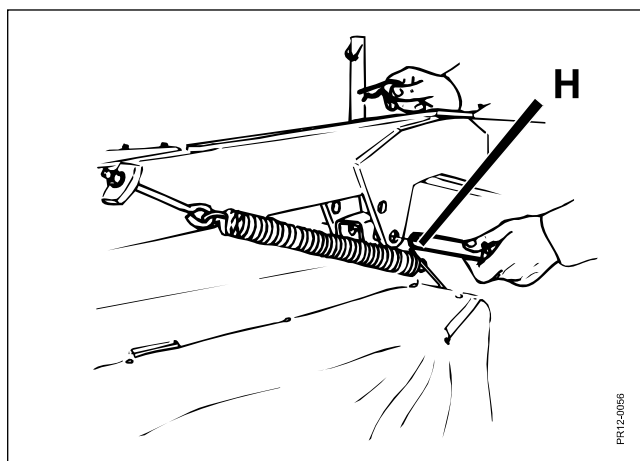

Fig. 3-3
- Fig. 3-3 The pendulum suspension must be locked at the pin **H**, in order to transport damage, but also to prevent the PTO shaft from bottoming during transport. If this is omitted shock from the pendulum suspension could damage the cross of the PTO shaft and possibly also parts in the gearboxes.